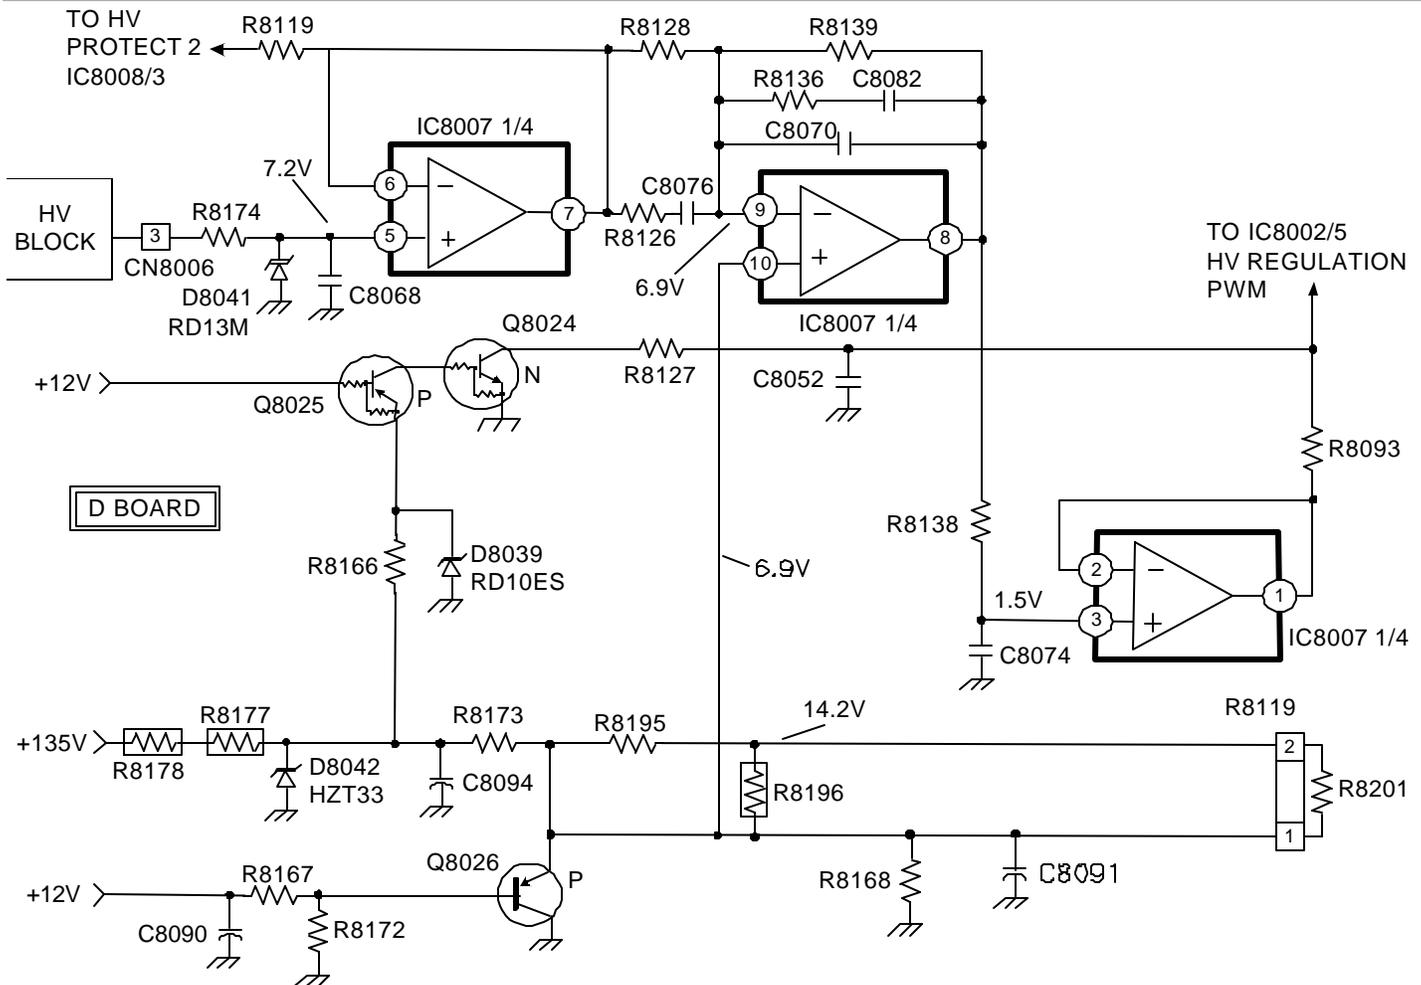
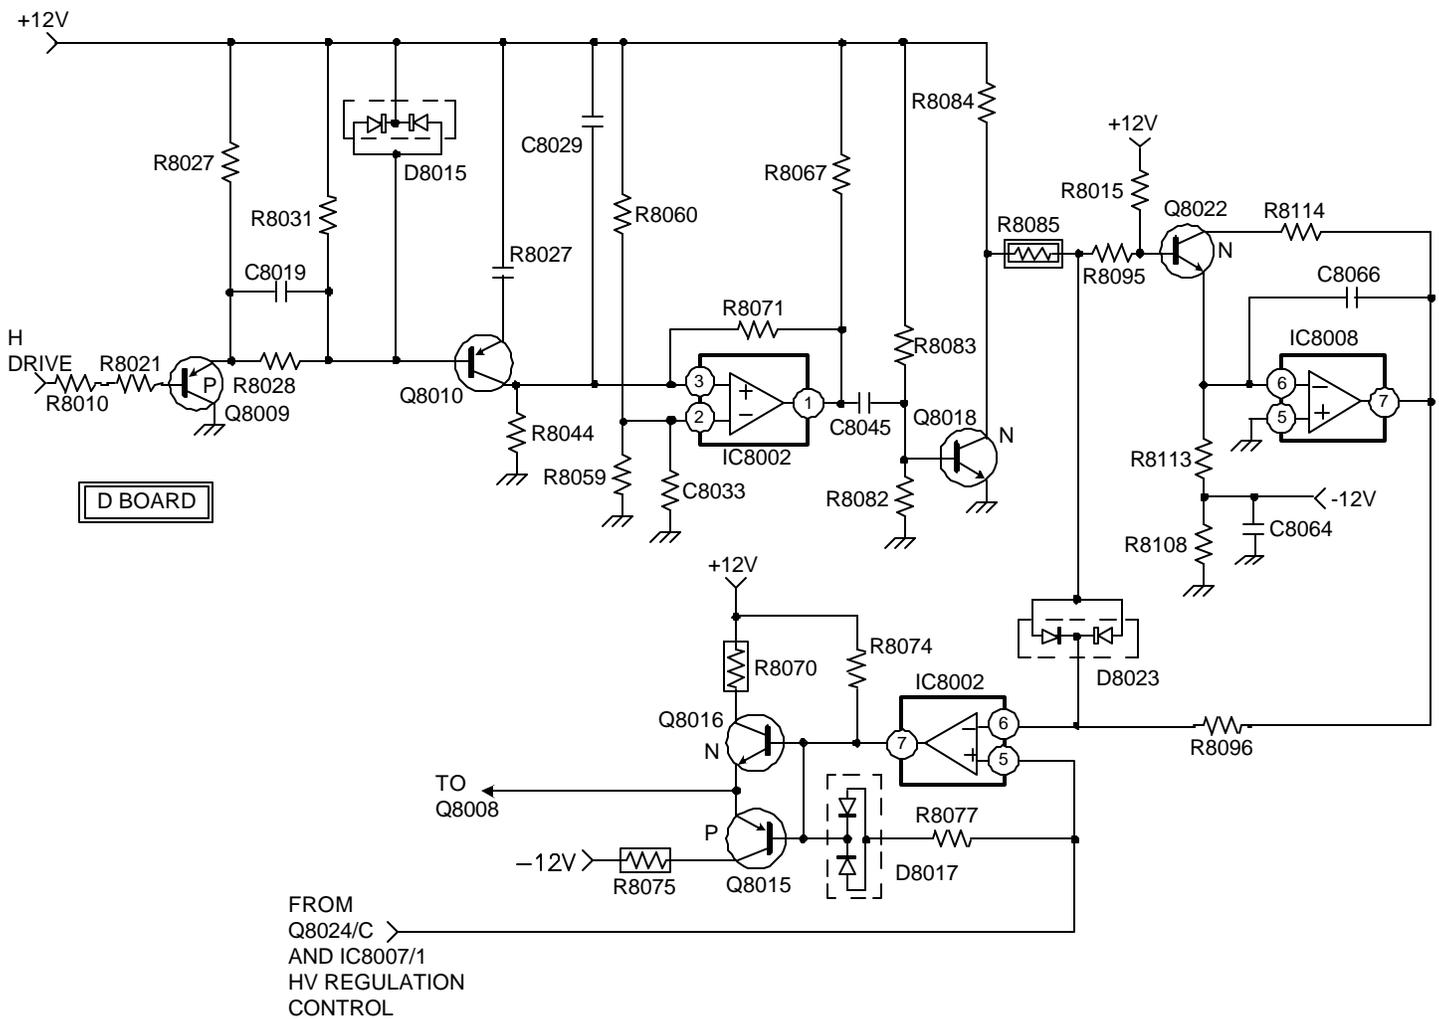

FIGURE 11-3 - HV REGULATION CONTROL
FIGURE 11-4 - HV REGULATION PWM
**High Voltage Monitor Stage:** In Figure 11-3, this diagram illustrates how a sample of the HV level is taken from the HV distribution block and applied to pin 5 of IC8007, a buffer, and output to pin 9 where the voltage is compared to a 7VDC source divided down from the 135V B+. It is once again buffered and sent out by pin 1 to the PWM comparator. The nominal voltage at this point is 1.5VDC. This is a good monitoring point for high voltage troubleshooting. The voltage will react inversely to the actual high voltage in the HV block. By monitoring IC8007/pin14, the HV sample feedback will indicate if the excessive high voltage is originating at this point. If the voltage reads lower than 1.5VDC during a HV protect, the HV block and the paths routing through IC8007 are OK since they are sending correct feedback. The regulator output stage shown in Figure 11-4 may be at fault. Shorted or open filters may be present at HV output Q80087. If the voltage is higher than 1.5VDC, the HV block or IC8007 is at fault.
**PWM Stage:** Figure 11-4 illustrates the second half of the HV regulator. There are two must-haves for a PWM circuit to function: The first is a sample of the voltage to be regulated, and a sawtooth or triangular shaped waveform. The horizontal pulse is utilized to provide the stable timing of the sawtooth signal applied at pin 6 of IC8002. The pulse will be amplified and shaped by peaking and integrators located in the upper half of the diagram. Pin 5 of IC8002 will receive a sample representing high voltage level from the circuit previously described in Figure 11-3. Since the sawtooth signal is applied to the inverting input of IC8002/pin6, any rise of the DC voltage at the non-inverting input at pin 5 will cause the comparator to output a high only when the level of the sawtooth is greater than the DC voltage input. Since the sawtooth enters the inverting input, the positive duration of the pulse is increased and the HV regulator driver, Q8008, will be turned on for a longer period.